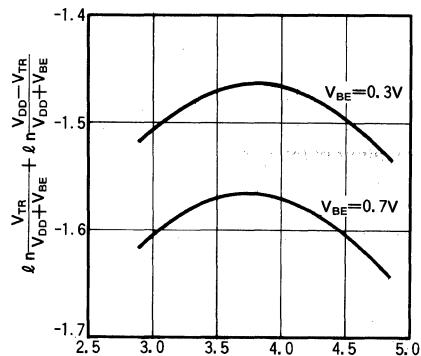

Fig. 1. V_{TR} VS $\ell \ln \frac{V_{TR}}{V_{DD} + V_{BE}} + \ell \ln \frac{V_{DD} - V_{TR}}{V_{DD} + V_{BE}}$
The value in $\{\}$ of (1) takes the maximum value at $V_{TR} = V_{DD}/2$. For example, under the condition of $V_{DD} = 7.5V$, the relation of the V_{TR} and the value in $\{\}$ is shown in Figure 1.
Regarding the Figure 1, the value in $\{\}$ of (1) at $V_{DD} = 7.5V$ is, in a range of $V_{BE} = 0.3V \sim 0.7V$ and $V_{TR} = 2.9V \sim 4.8V$, $-1.647, -1.464$.